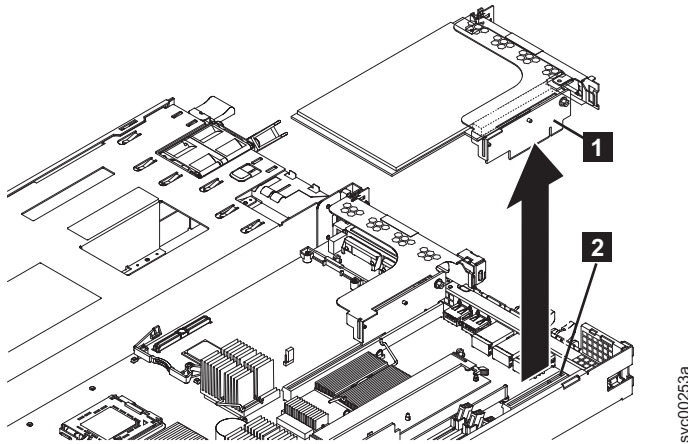

Figure 211. Removing the Fibre Channel riser-card assembly for the SAN Volume Controller 2145-CG8 or 2145-CF8
11. After removing the back-rail retaining screws for the adapter assembly, grasp the riser-card assembly at either end and pull up and out of the slot 1 riser-card connector, as shown in Figure 211. Once the riser card clears the connector, gently twist the card assembly to separate the assembly from the node.